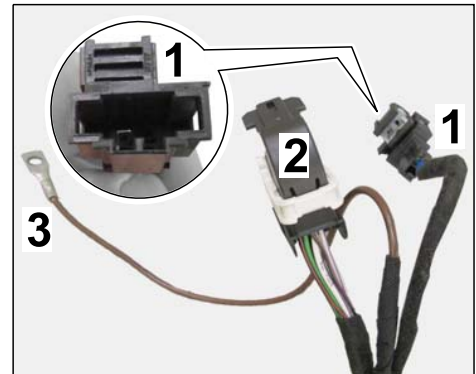

Figure 15
2.7.1 Connect plug connection (2-pin ⇒ *Figure 15*) for brake booster preparation in the luggage compartment area at the left.